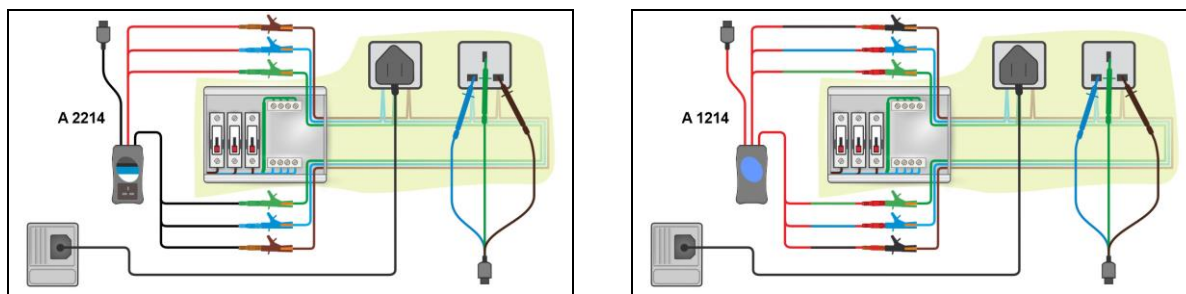

Figure 5.22: Step 2 – Testing R1+RN and R1+R2 sections of the wiring in ring final circuit with A 2214 (left) and with A 1214 (right)
- ❑ **Connect** Plug cable or Test cable to a socket in ring final circuit. (See *Figure 5.22*)